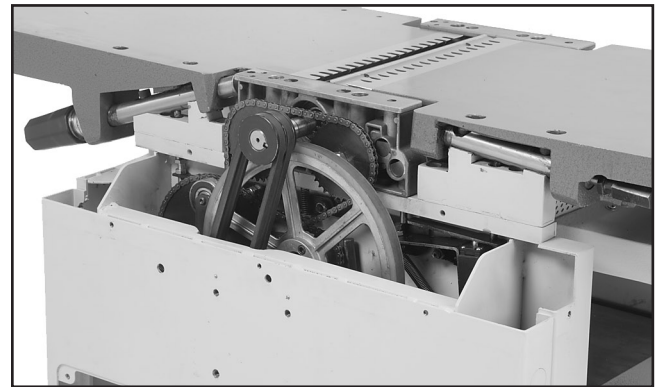

Figure 67. Fence and V-belt cover removed.
1. Remove the fence assembly, fence bracket, and the V-belt cover (**Figure 67**).